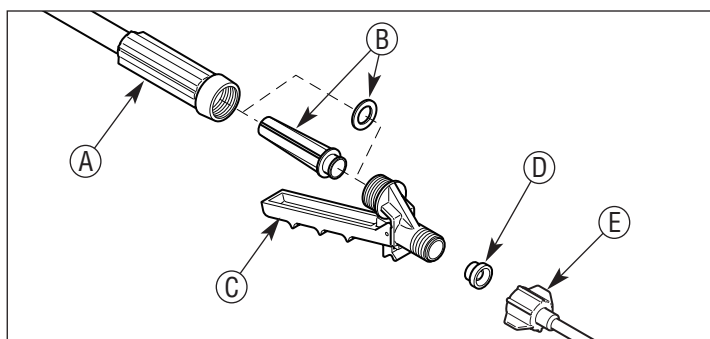

Figure 9. Assemble Shut-Off and Install Extension
1. Install the filter or poly washer (B) into the handle (A). See Figure 9.
2. Assemble the shut-off assembly (C) to the handle (A) and tighten securely.
3. Make sure the valve seat (D) is present in the end of the shut-off assembly (C).
4. Install the extension (E) onto the end of the shut-off assembly (C). Tighten the nut securely.